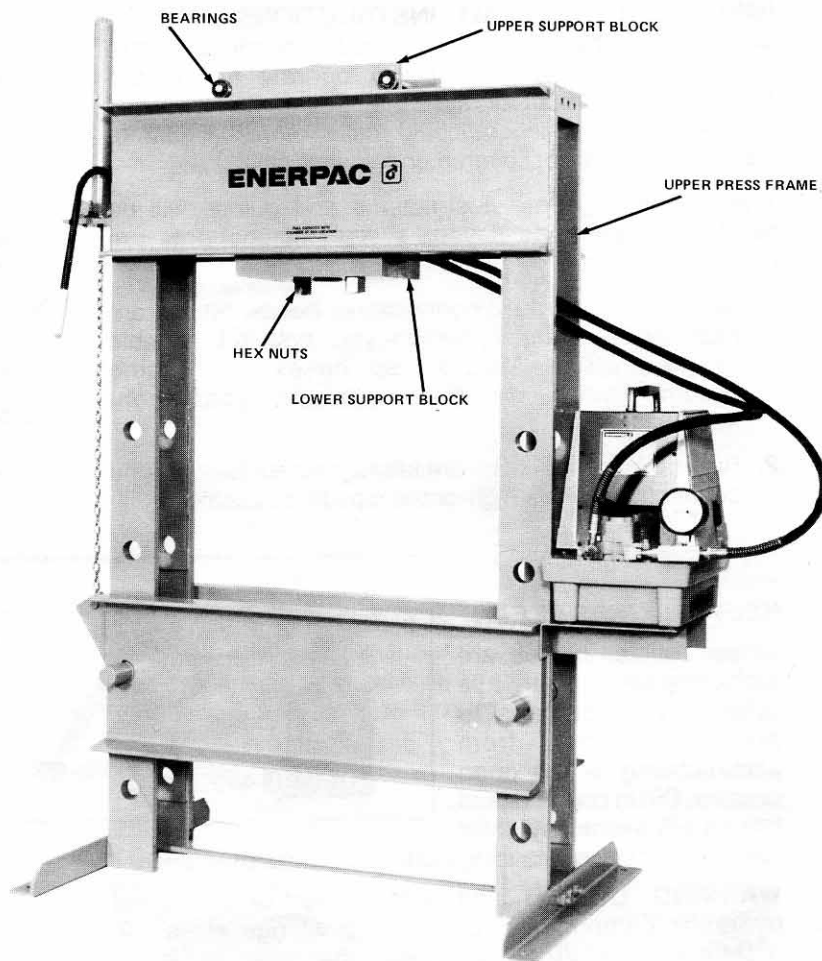

Figure 3
- b. Insert the tie rods through the lower support block and thread them into the holes in the upper support block. Tighten the hex nuts until the upper and lower blocks are firmly against the press frame. (Figure 3)
- (1) **For 100 Ton Presses:** Install the connector in the upper cylinder port, attach the offset tube assembly and female connector. Install the female coupler half. The lower port uses the standard coupler half without any other fittings. Connect the pump hoses.
- (2) **For 75, 150 & 200 Ton Presses:** The upper cylinder port uses the standard female coupler half. Install the long nipple in the lower cylinder port then the female coupler half. Connect the cylinder to pump hose assemblies.